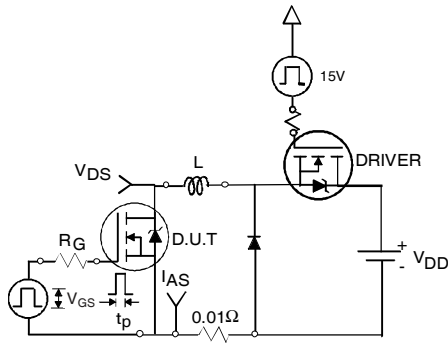

Fig 12a. Unclamped Inductive Test Circuit
- ③ Pulse width $\leq 1.0\text{ms}$; duty cycle $\leq 2\%$.
- ④ $C_{oss\ eff.}$ is a fixed capacitance that gives the same charging time as C_{oss} while V_{DS} is rising from 0 to 80% V_{DSS} .
- ⑤ Limited by T_{Jmax} , see Fig.12a, 12b, 15, 16 for typical repetitive avalanche performance.
- ⑥ This value determined from sample failure population. 100% tested to this value in production.
- ⑦ This is only applied to TO-220AB package.
- ⑧ This is applied to D²Pak, when mounted on 1" square PCB (FR-4 or G-10 Material). For recommended footprint and soldering techniques refer to application note #AN-994.
- ⑨ R_θ is measured at T_J of approximately 90°C .
- ⑩ Calculated continuous current based on maximum allowable junction temperature. Bond wire current limit is 75A. Note that current limitations arising from heating of the device leads may occur with some lead mounting arrangements.
3. Equation below based on circuit and waveforms shown in Figures 12a, 12b.